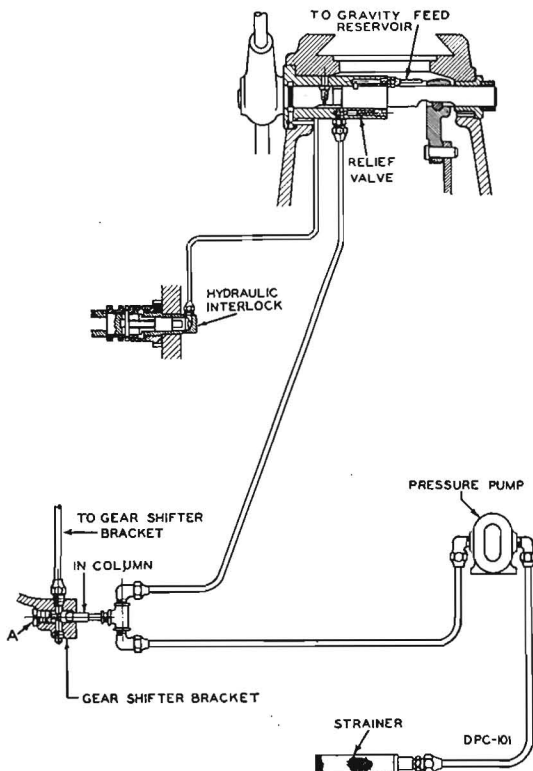

FIGURE 29
1. Remove screw plug "A", Figure 29, at bottom, rear of gear shifter bracket. Put at least a 500 lb. hydraulic gauge in this connection. This is a  $\frac{3}{4}$ -16 R. H. tapped hole and requires a special fitting, or drill and tap  $\frac{1}{4}$ " pipe thread through plug "A" for gauge.